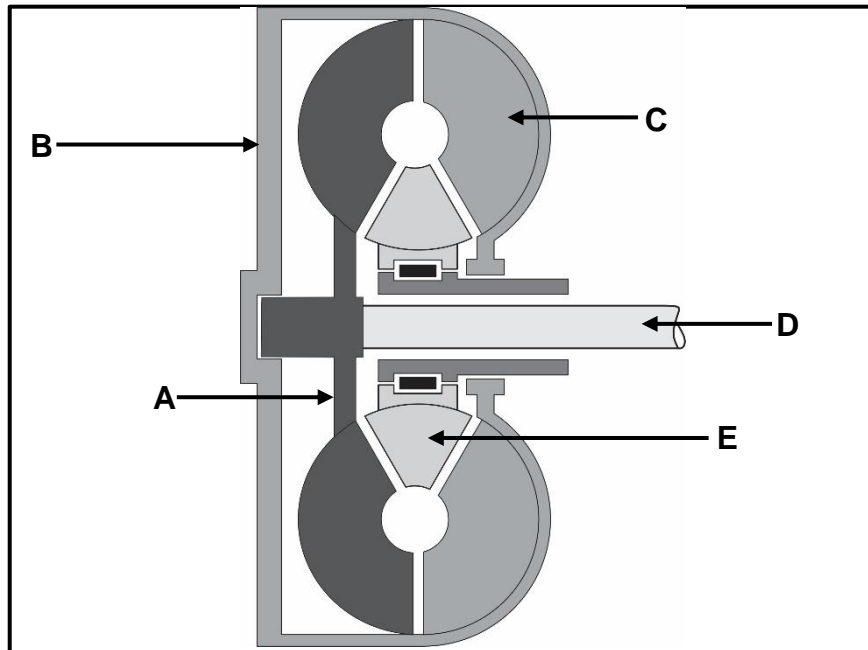

FIGURE 9.1
9.1 FIGURE 9.1 below shows a torque converter used in automatic transmissions. Answer the questions that follow.
9.1.1 Label parts **A–E** in FIGURE 9.1 above. (5)